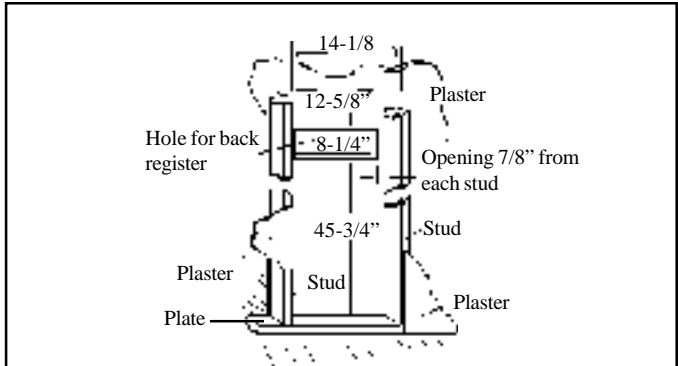

FIG. 6 - ROUGH-IN DIMENSION FOR REAR REGISTER
(Figures 6 and 7 line drawings of rear register opening)
**STEP 1.** Cut hole in the back wall 8-1/4" high by 12-5/8" wide. The lower edge of the hole to be 45-3/4" above the floor plate as shown in Figure 6.